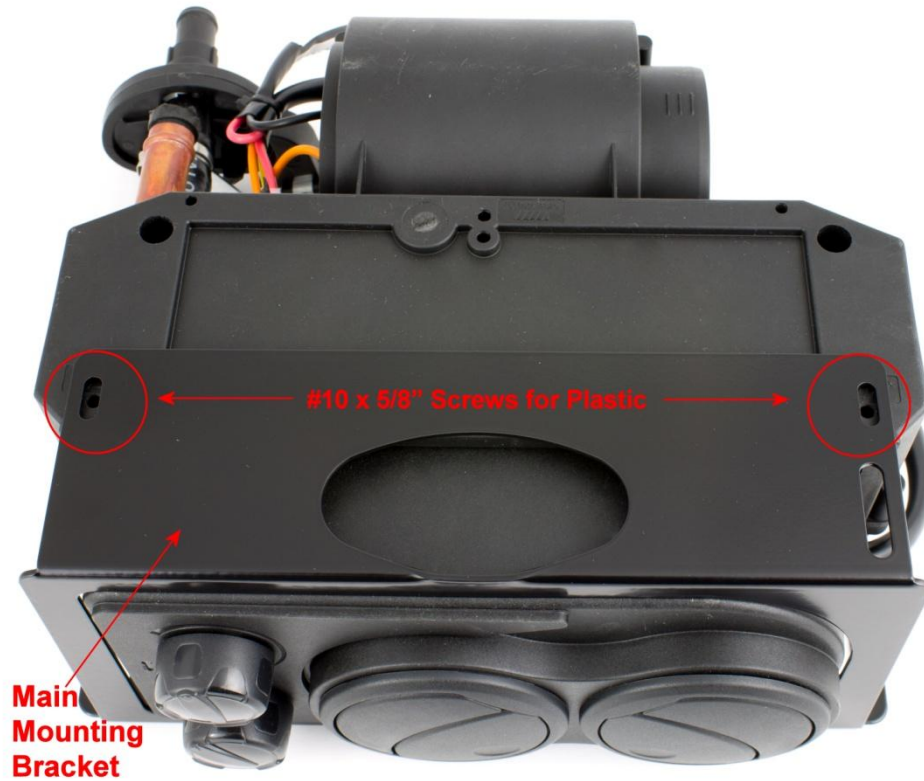

Figure 3
4. Install the Main Heater Mounting Bracket to the heater as shown in Figure 3. Attach using the supplied #10 x 5/8" Screws for Plastic on both the top and bottom side of the bracket.